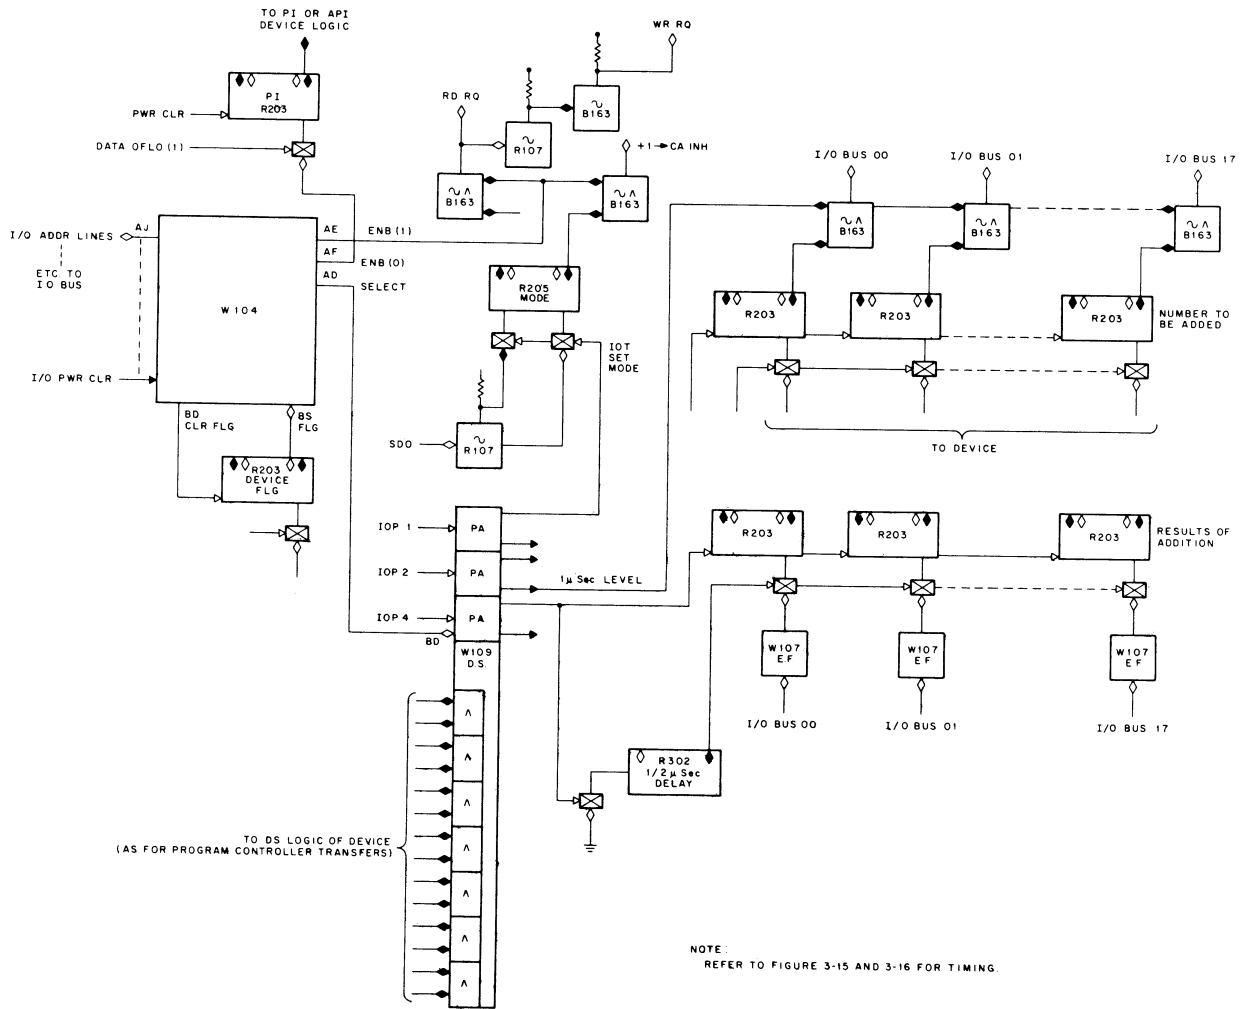

Figure 3-14 DCH Add-to-Memory Circuit With +1 → CA INH Mode
3.4.6.2 Add-to-Memory - The add-to-memory operation (Figure 3-14) is a combination of reading and writing. The data transmitted by the device is added to the word read from memory, and rewritten
The circuit shown in Figure 3-14 does not differ much from an ordinary DCH transfer. A DCH RQ is made. Both RD RQ and WR RQ are sent to the computer. A MODE flip-flop can be set to inhibit incrementing the CA contents during the third cycle. (For averaging, IOP 2 is used to gate the data to be added onto the bus and IOP4 strobes the sum into the second register.) If DATA OFLO(1) occurs, a PI is set.